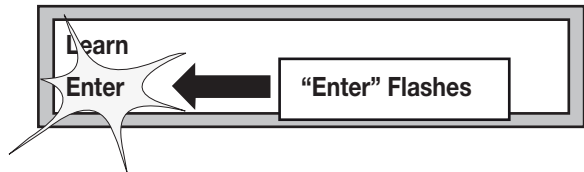

Figure 10 - LCD DISPLAY
4. Turn on the electrical power to the unit. The control board is already in the “LEARNING MODE” when shipped (see Figure 10), but in order to select the right kind of gate press FUNCTION, then LEARN then select SWING, then select LIGHT or AVERAGE or HEAVY, then press ENTER.